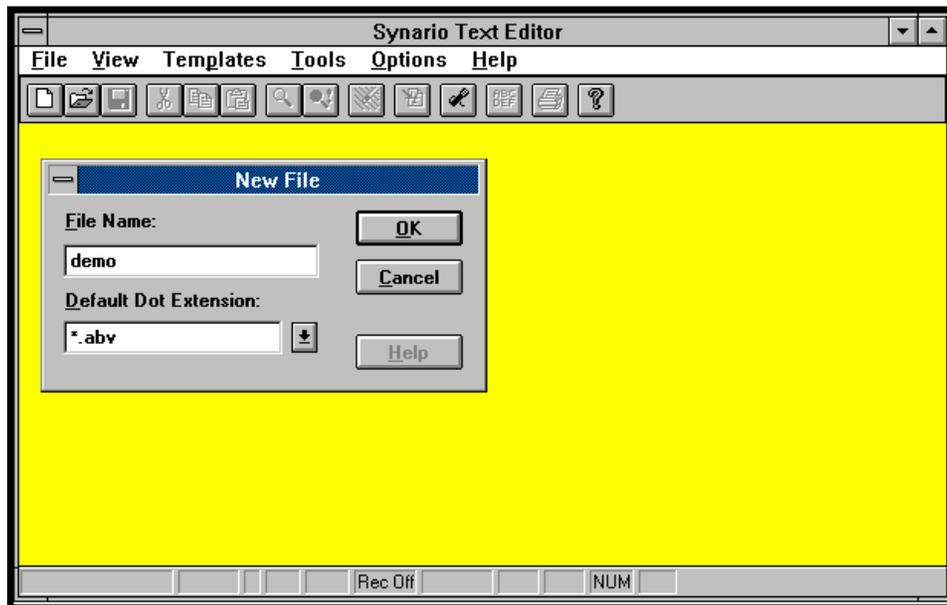

Figure 1-11. Synario Text Editor with the New File Dialog Box
28. The New File dialog box and a blank Synario Text Editor window appears. Enter the file name **demo** as shown in Figure 1-11 for your test vector file name. Click **OK** or press **Enter**.